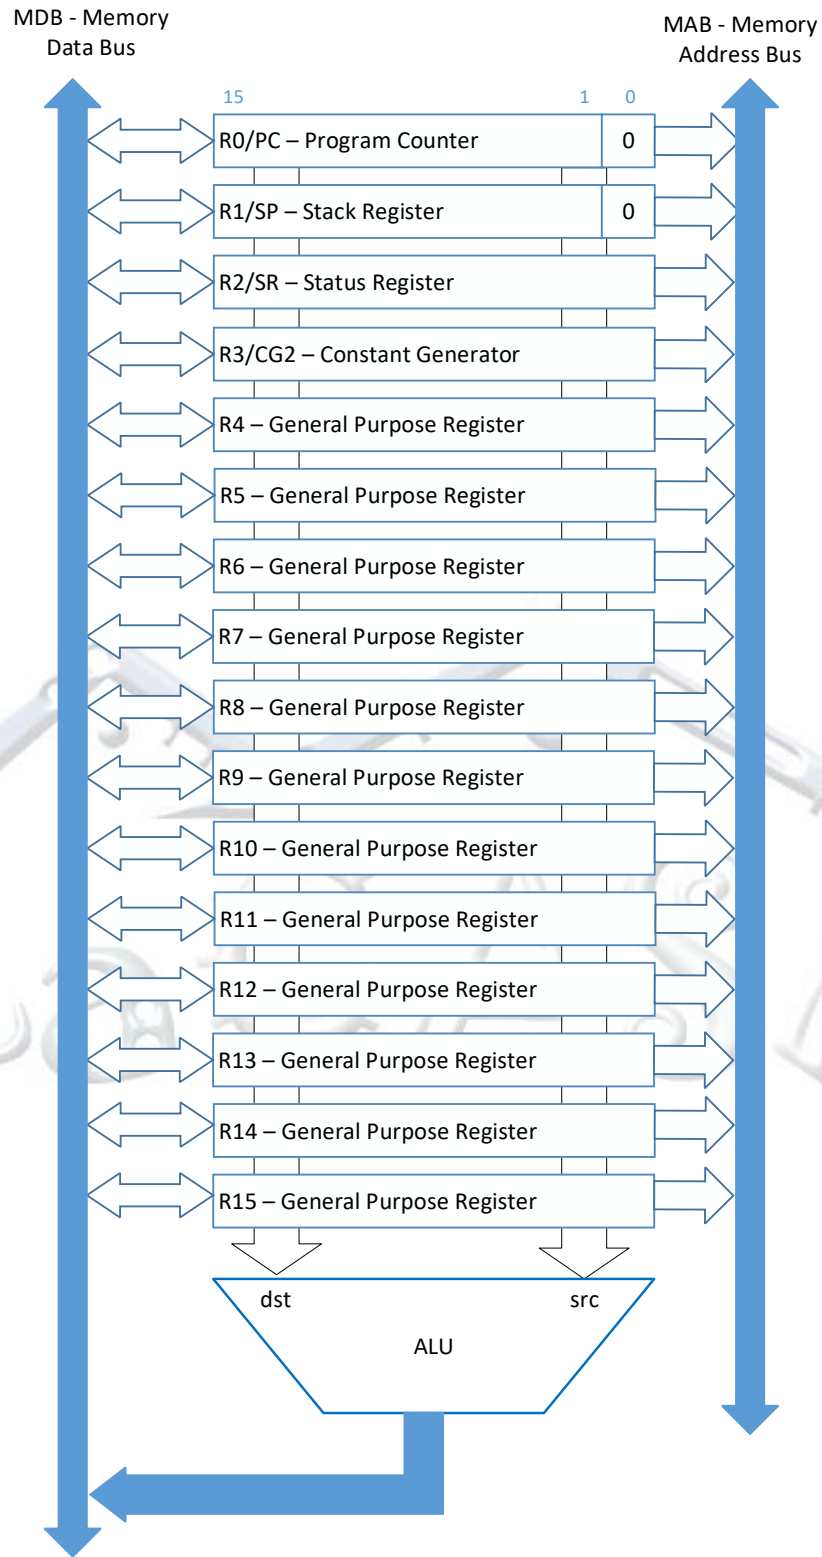

Figure 3. MSP430 CPU Datapath: Registers and ALU.
Figure 3 shows a block diagram of the MSP430 processor's datapath with registers and ALU. The MSP430 has sixteen 16-bit registers named R0 – R15 that are all visible to programmers. Some of these registers are reserved for special functions as follows: the register R0 serves as the program counter (PC), the register R1 serves as the stack pointer (SP), and the register R2 serves as the status register (SR). The R3 register is used for constant generation, while the remaining registers R4-R15 serve as general-purpose registers (i.e., they can be used by programmers freely for storing local variables and addresses).